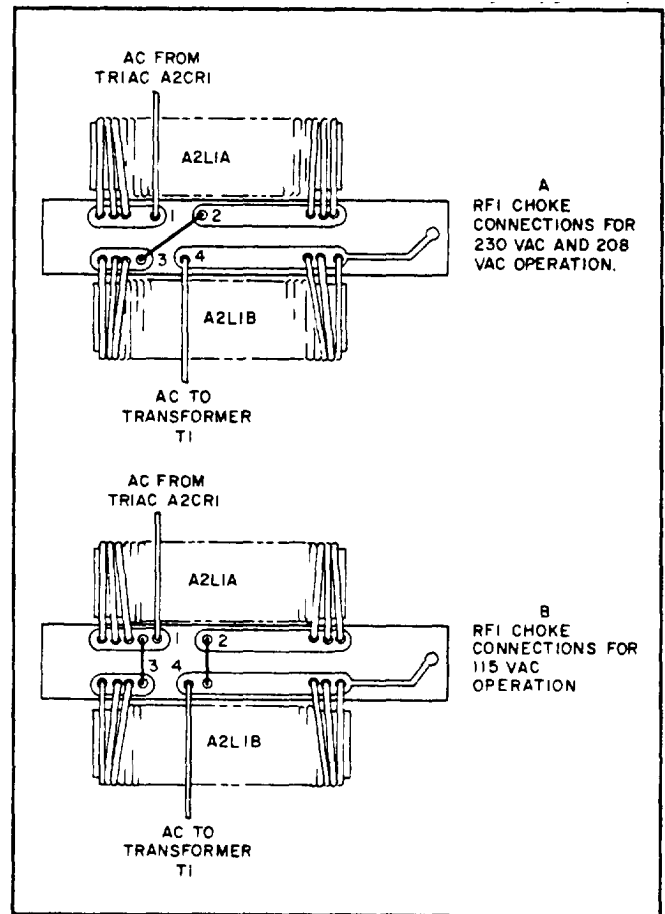

Figure 2-5. RFI Choke (A2L1A/A2L1B) Connections for 115Vac Operation (Model 6259B, 6260B, 6261B, and 6268B)
- c. Unsolder jumper between terminals 2 and 3 of RFI choke mounting board and solder jumpers between terminals 1 and 3, 2 and 4 (see Figure 2-5 B). Replace cover on RFI assembly.